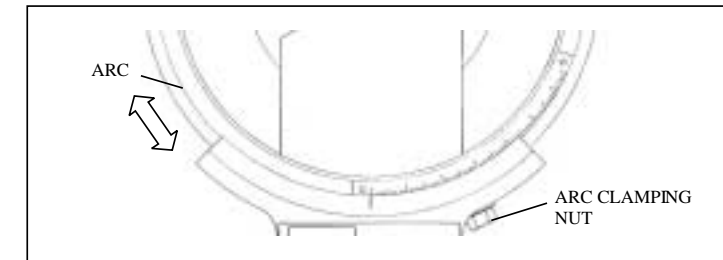

Figure 5: Position of the arc clamping nut
- Tighten the nut while making sure that the arc does not slip. See Figure 5.